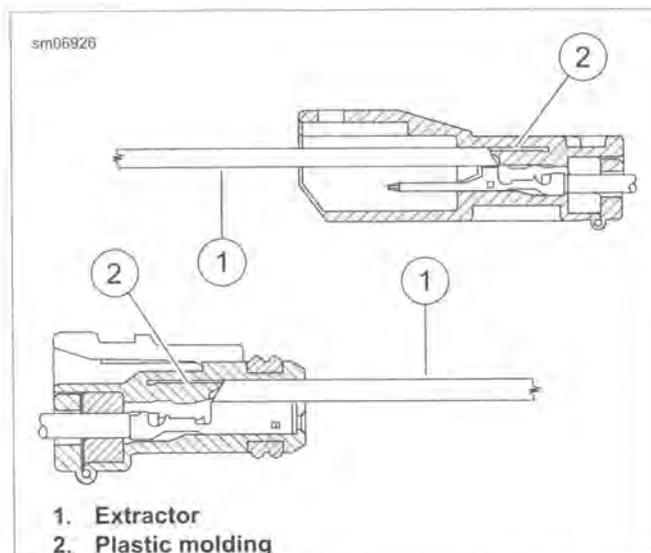

Figure A-41. JAE MX19 Terminal Removal
2. See Figure A-41. Insert the extractor (1) into the opening above the terminal and press the plastic molding (2) up and out of the way.